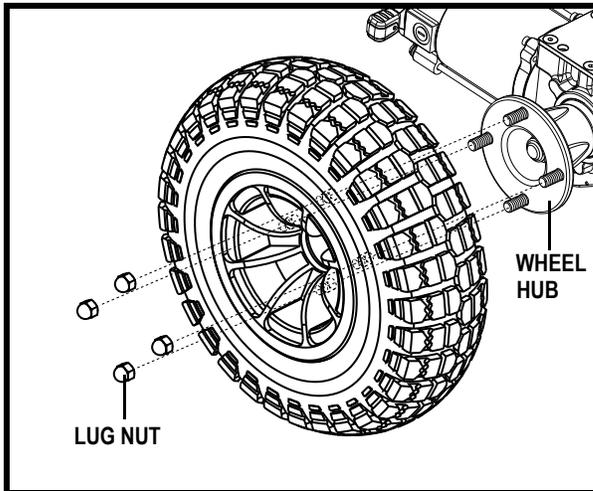

Figure 18. Quantum/Jazzy 1450 Series Drive Wheel
4. Remove the four (4) lug nuts from the wheel hub. See figure 18.